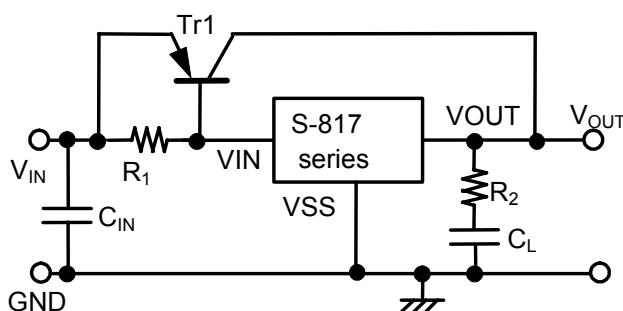

Figure 14
As shown in **Figure 14**, the output current can be boosted by externally attaching a PNP transistor. The base current of the PNP transistor is controlled so that output voltage (V_{OUT}) goes the voltage specified in the S-817 Series when base-emitter voltage (V_{BE}) necessary to turn on the PNP transistor is obtained between input voltage (V_{IN}) and S-817 Series power source pin (V_{IN}).
- To improve transient response characteristics of the output current boosting circuit shown in **Figure 14**, check that no problem occurs due to output fluctuation at powering on or due to power or load fluctuation under normal operating conditions.